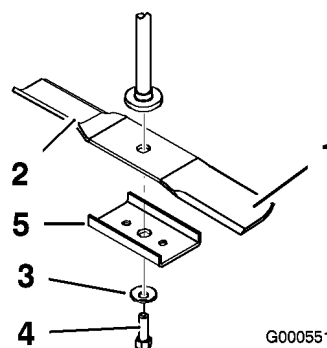

Figure 37
Hold the blade end using a rag or thickly-padded glove. Remove the blade bolt, curved washer, blade stiffener, and blade from the spindle shaft (Figure 37).
1. Install the blade onto the spindle shaft (Figure 37).
2. Install the blade stiffener, the curved washer (cupped side toward the blade) and the blade bolt (Figure 37).